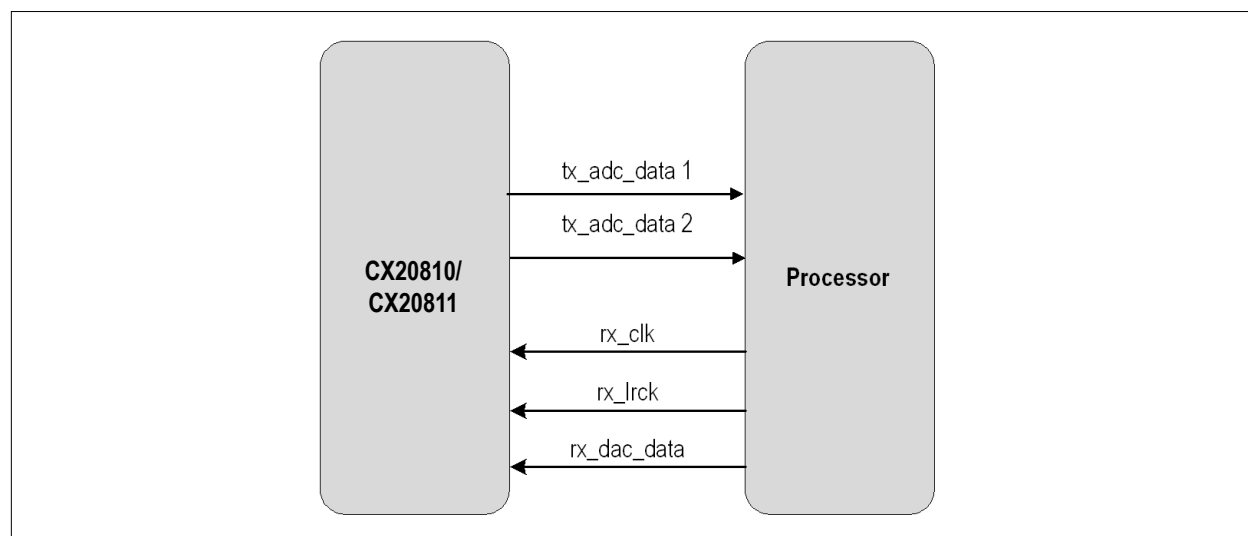

Figure 88: Five-Wire Slave Mode with DAC BCLK, LRCK
- Figure 88 on page 168 provides the five-wire slave mode with DAC BCLK/LRCLK